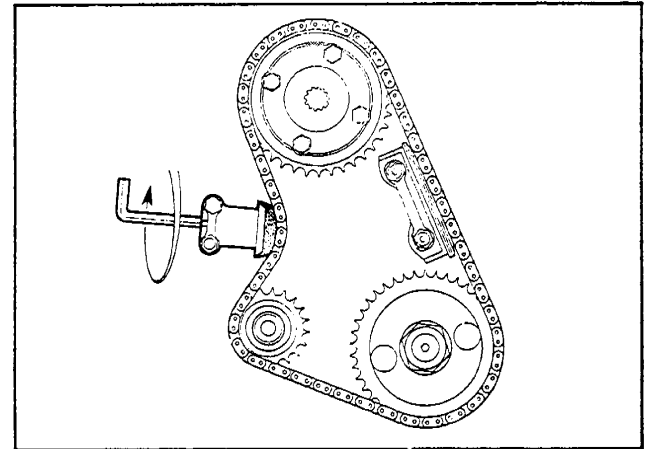

Fig. 2
14. Retract the chain tensioner slipper as shown in Fig. 2
- c. Release the chain tensioner as shown in Fig. 2
3. Retract the chain tensioner slipper as shown in Fig. 2.
- e. Release the chain tensioner slipper as shown in Fig. 2.